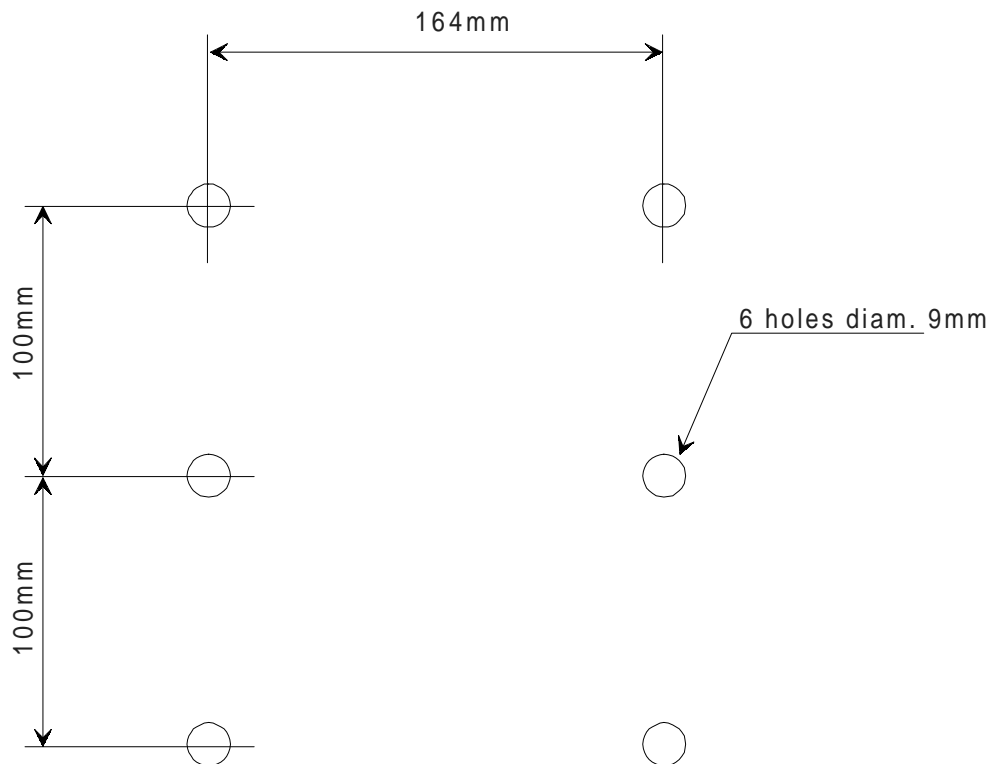

Fig. 3.3. Holes for wall mounting
- Make six holes in the wall corresponding to the holes located on bracket (Fig. 3.3.).